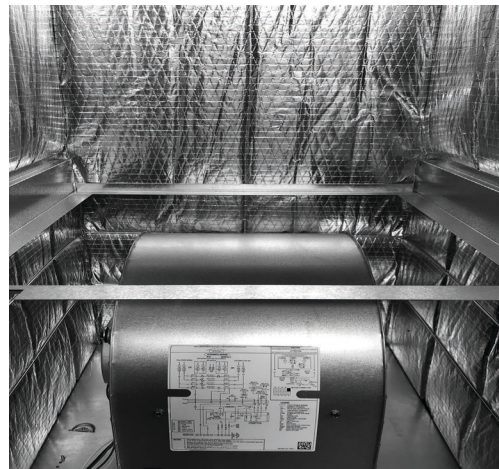

Figure 2
4. The Rear Coil Support Bracket is placed inside the cabinet on top of the coil support rails, along the rear and secured in place with foil tape. Figure 2.